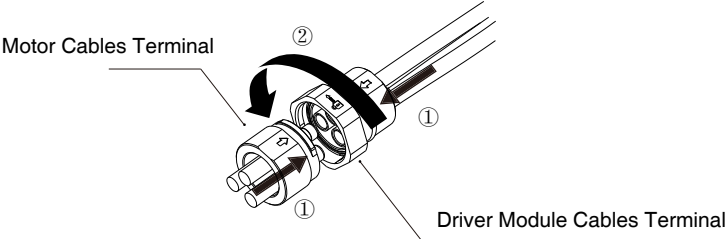

Figure 3-3
Step 3: Connect the motor cables terminal with the driver module cables terminal. Align the arrows ① in the terminals first (refer to Figure 3-3) then plug in. After two terminals are properly connected, lock them by the buckle ring in the direction of arrow ② .